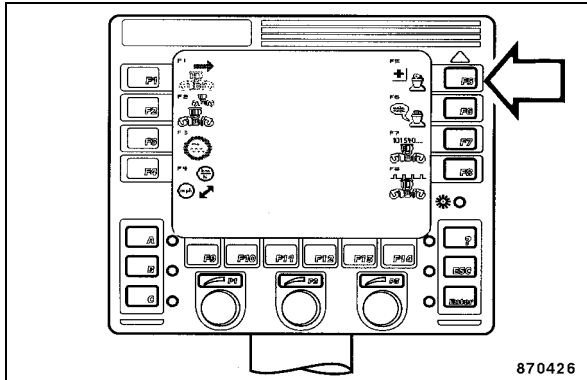

Fig. 198
- Press key "F5" (diagnostics) (Fig. 198).